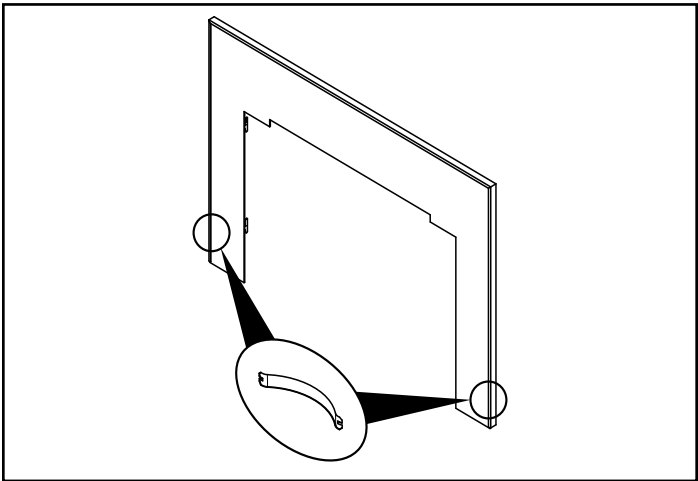

Figure 5.10
5. Install two steel springs on each side of the flat surround towards the bottom and the assembled trim kit (Figure 5.10).